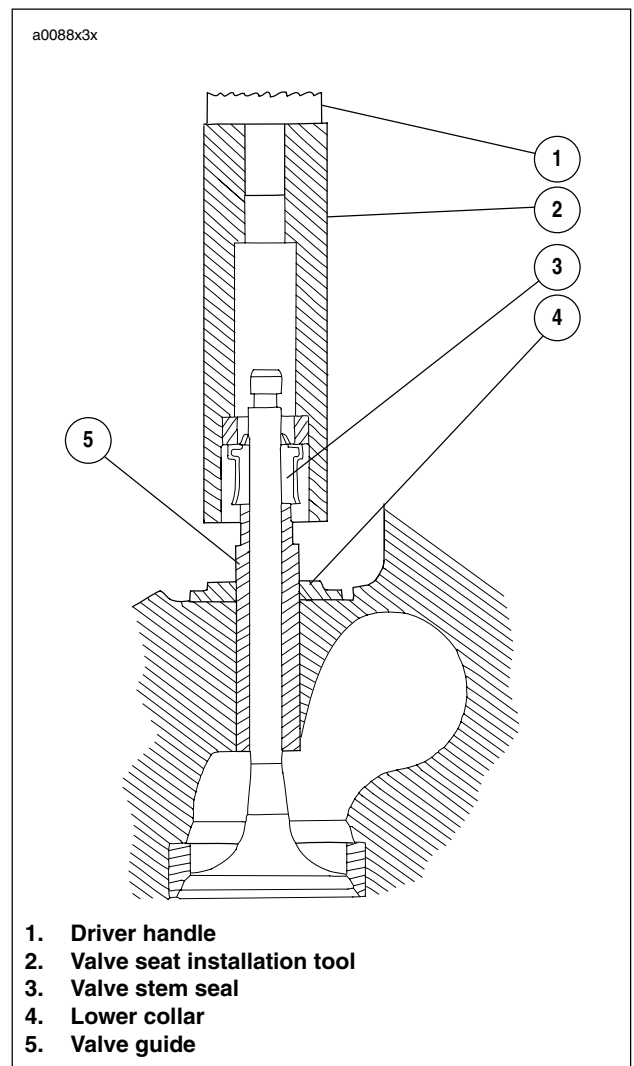

Figure 3-63. Valve Seal Installation
7. See Figure 3-63. Tap the valve stem seal onto the valve guide using the VALVE SEAL INSTALLATION TOOL (Part No. HD-34643A) and DRIVER HANDLE (Part No. HD-34740). The seal is completely installed when the tool touches the lower collar.